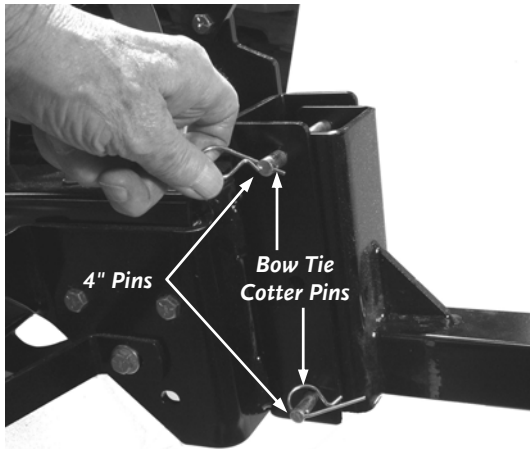

Figure 6
6. Using the two (2) 4" Pins and Bow-Tie Cotter Pins from the Hardware Bag, attach the Tow Hitch to the machine (**Figure 6**).